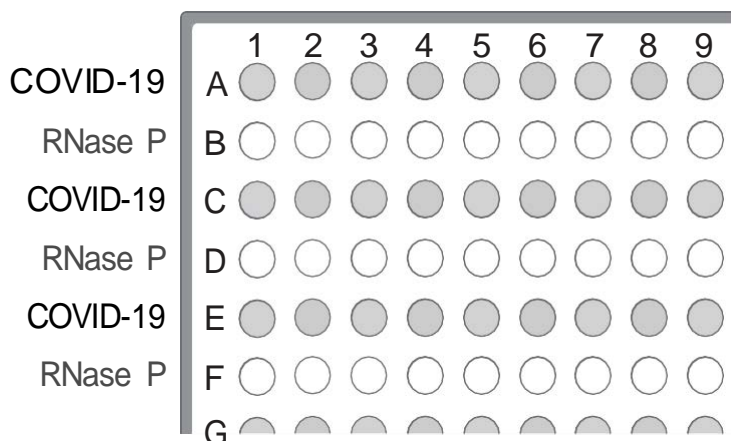

Figure 3 Assays in alternating plate rows
- a. Starting with row A, pipet 10.0 μL per well of the COVID-19 Reaction Mix into every other row of a MicroAmp™ Optical 384-Well Reaction Plate with Barcode. See Figure 3 on page 57.